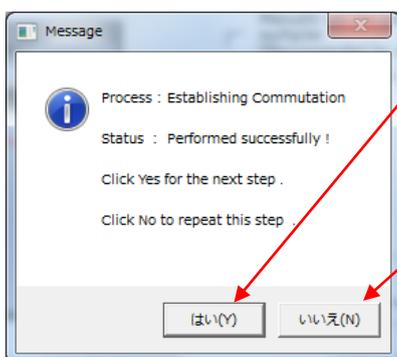

Fig. 6-2-23
- 5) When the commutation setting completes, the end screen (Fig.6-2-23) will be displayed.